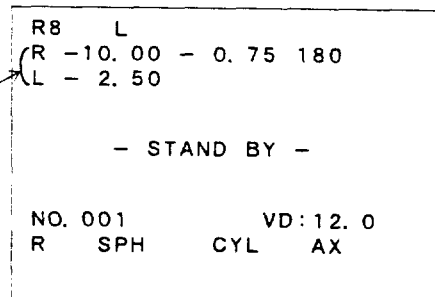

Figure 6-11 After Sample Screen of Printout
After the data is transmitted to the printer, The representative values are displayed in the view finder as shown in figure 6-11.
- ① Push the middle of the forehead rest in the direction as shown by the arrow in the figure 6-11 to set the forehead rest.
- ② Gently place the forehead rest onto the patient's forehead and then adjust the measurement distance by slowly pushing on the measuring unit.
- ③ If the forehead rest is not needed, return it to its original position.